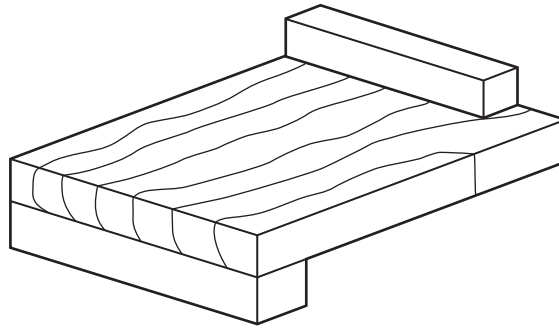

Fig. 4
- 2 Fig. 4 shows a piece of workshop equipment.